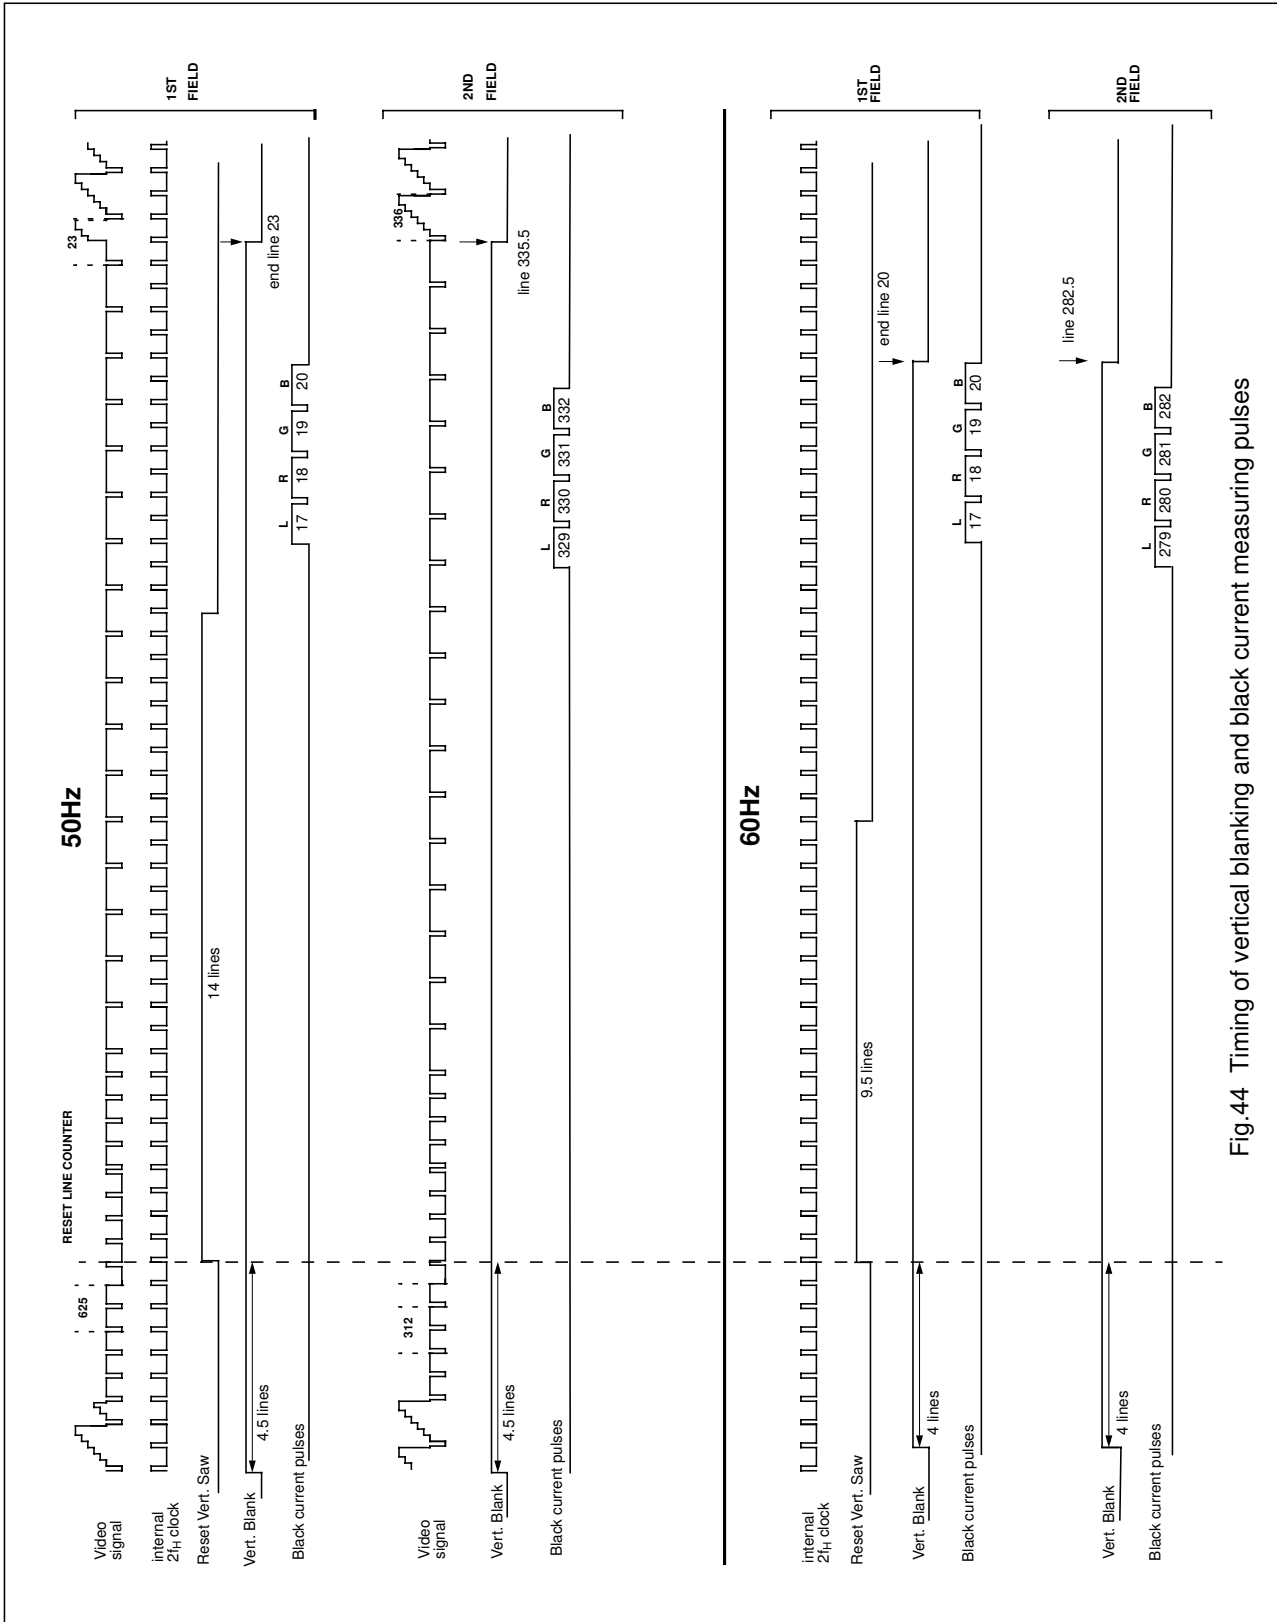

Fig.44 Timing of vertical blanking and black current measuring pulses
57. This is a current input. The timing of the measuring pulses and the vertical blanking for the 50/60 Hz standard are given in Fig.44
58. The input of the vertical guard function can be connected to the black current measuring input (BLKIN) or to the beam current limiting input (BCLIN). The switching between these modes is realised by means of the IVG bit in subaddress 2BH. When the black current input is chosen it should be noted that for a reliable operation of the protection system and the black current stabilization system the end of the protection pulse during normal operation should not overlap the measuring pulses (see also Fig.44). Therefore this pulse must end before line 14.